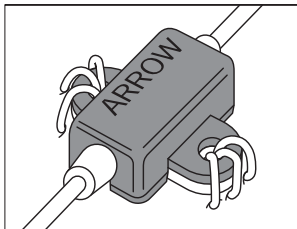

Figure 3
- Secure catheter clamp and fastener as a unit to patient by using either catheter stabilization device, stapling or suturing. Both catheter clamp and fastener need to be secured to reduce risk of catheter migration (refer to Figures 3 and 4).